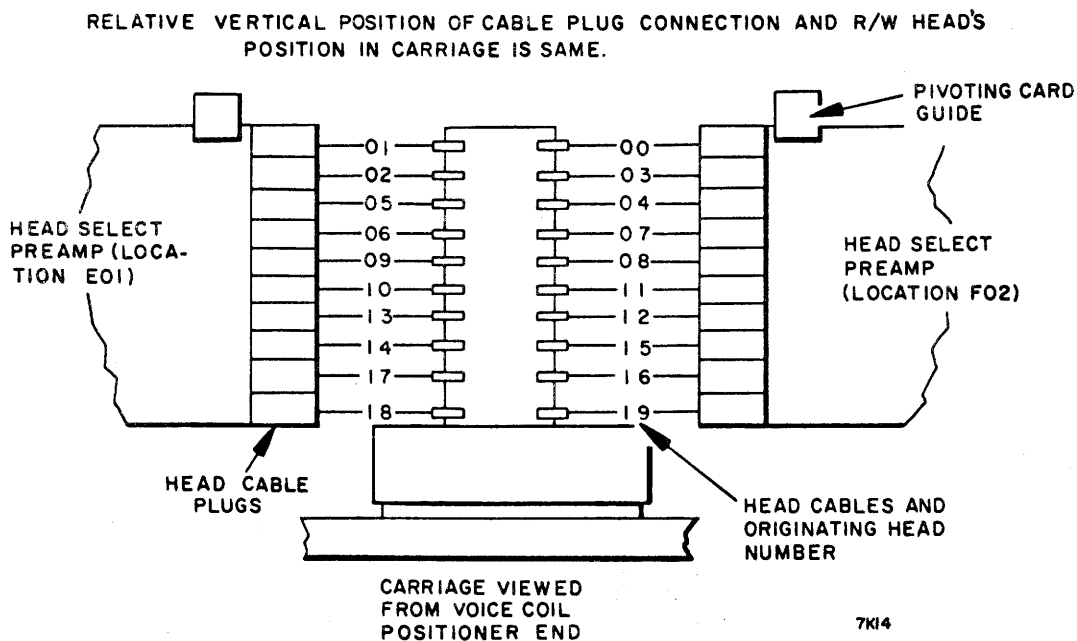

Figure 6-19. Read/Write Head Cable Connections
4. Disconnect each head cable plug connected to edge of card at locations E01 and F02 (Figure 6-19).
9. Connect head cable plugs to edge of head select preamplifier cards (Figure 6-19) and replace head cable clamp assembly.